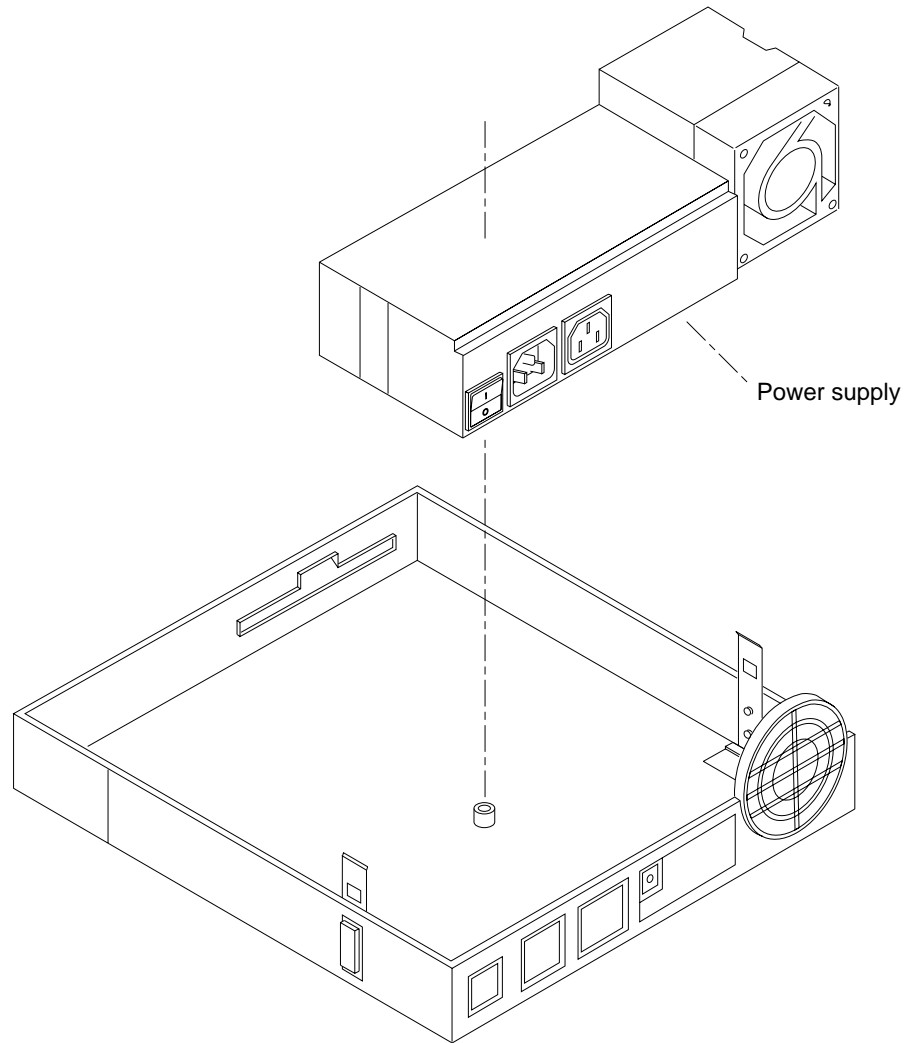

Figure 4-15 Removing and Replacing the Power Supply
Figure 4-15 shows how to remove and replace the power supply.
- 3. Lower the power supply into the unit top as shown in Figure 4-15.**
- 5. Be sure the power switch is in the OFF (O) position and connect the system power cord to the AC power outlet.**
There are no voltage test points on the main logic board. If you need to measure voltages, the safest place is at the power connector on the main logic board (see Figure 4-15). See “Before Replacing the Main Logic Board” later in this chapter for the connector wiring and voltages.